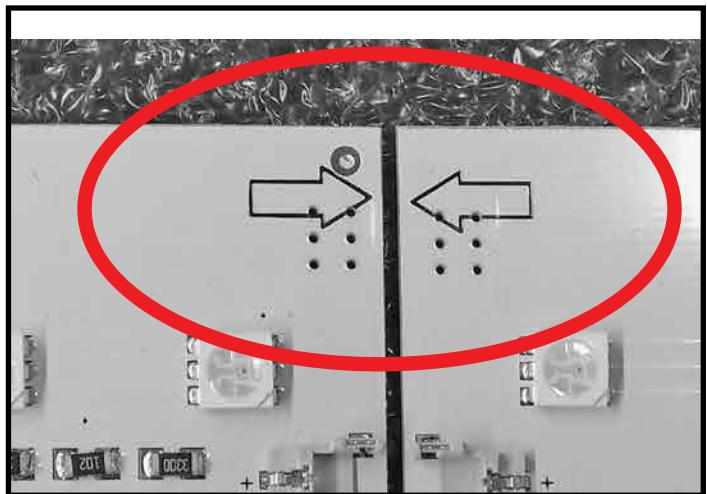

Figure 56: Arrows always meet.
**NOTE: When replacing an LED section, make sure that the arrows on the sections meet as shown in (Figure 56). Whether joining full sized sections to other full sized sections, or when joining a full sized section to a short section, the arrows must meet each other. As you stand in front of the fire feature, the arrows will be located on the sides of the sections furthest away from you.**